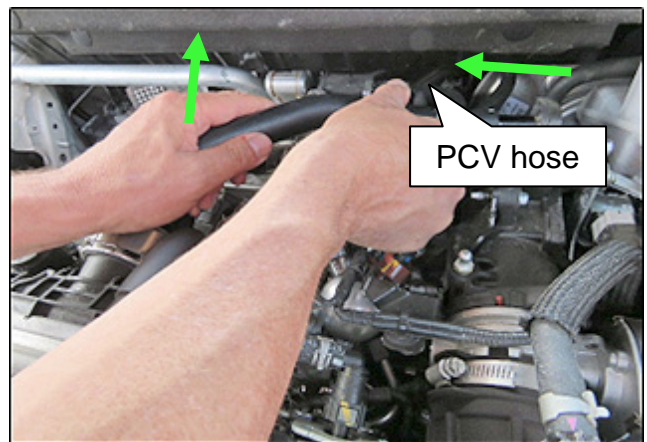

Figure 4
- d. Pull on the PCV hose in the directions shown in Figure 4, for PCV hose removal.